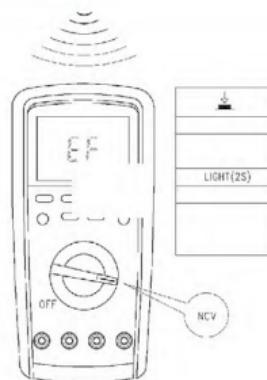

Fig. 12
10. NCV measurement (see Fig. 12)